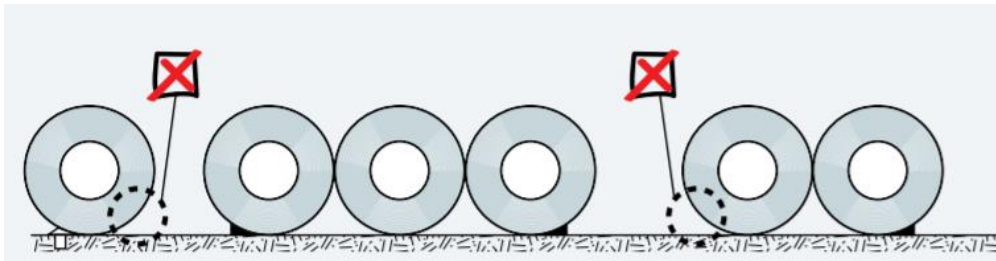

Figure 4a: Unacceptable or inappropriate coil restraint
- Insufficient, lack of or inaccurate placement chocks (Figure 4a).